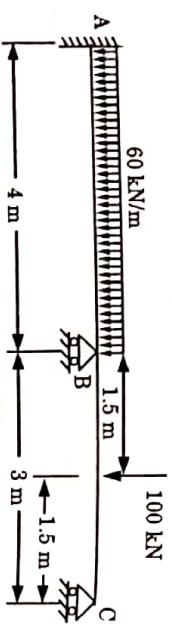

Fig. 1.
- a. Analyze the following continuous beam Fig. 1 using the flexibility method of matrix analysis. Draw BMD. (5  $\times$  10 = 50)